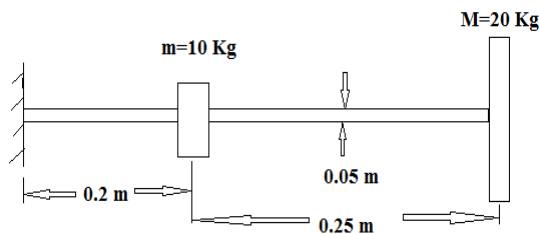

Fig. 1
6. Find the lowest natural frequency of the system shown in Fig.1 using Rayleigh method.